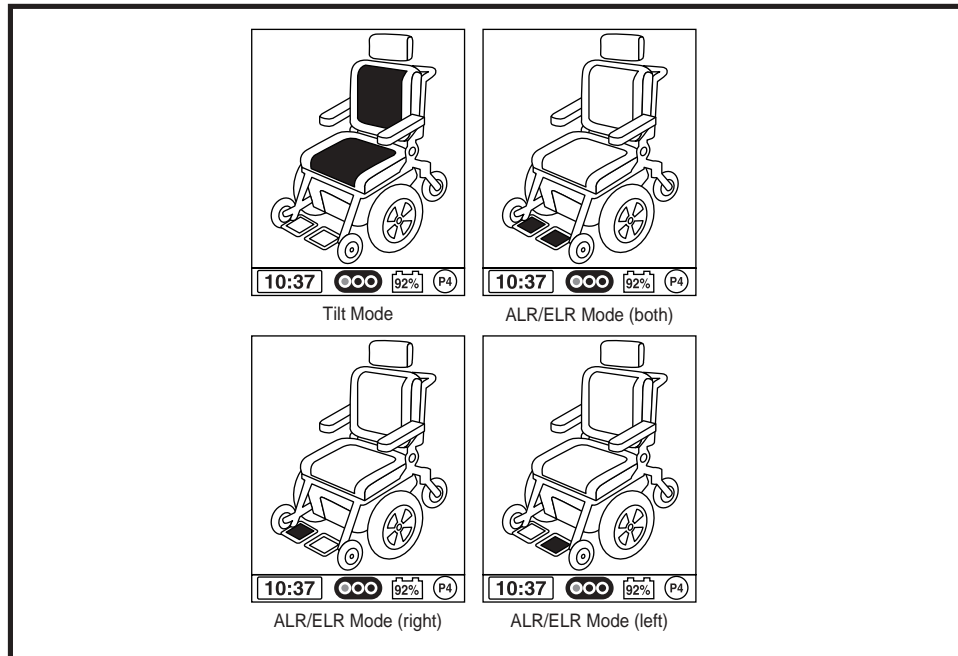

Figure 11. Actuator Modes - Q-Logic
3. Push the joystick to the right to cycle through the available actuators until the seat and back are illuminated on the actuator indicator. See figure 11.